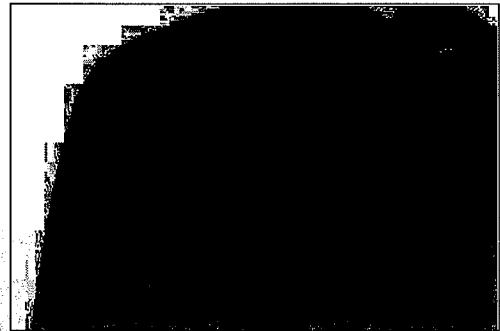

Figure 31
4. Make sure the recovery tank lid is in place and has been tightened (see figure 31).